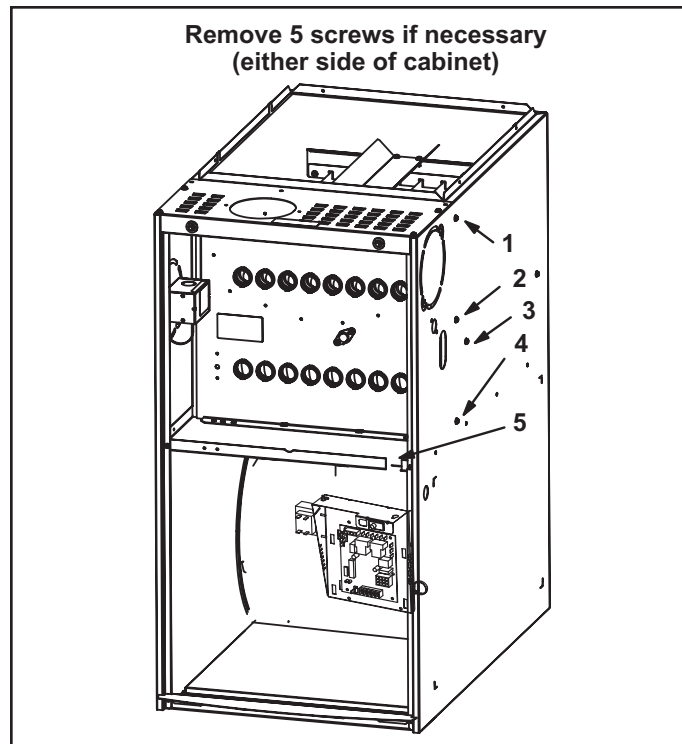

Figure 21.
9. Remove heat exchanger. It may be necessary to spread cabinet side to allow more room. If so, remove five screws from the left side or right side of cabinet. See Figure 21.